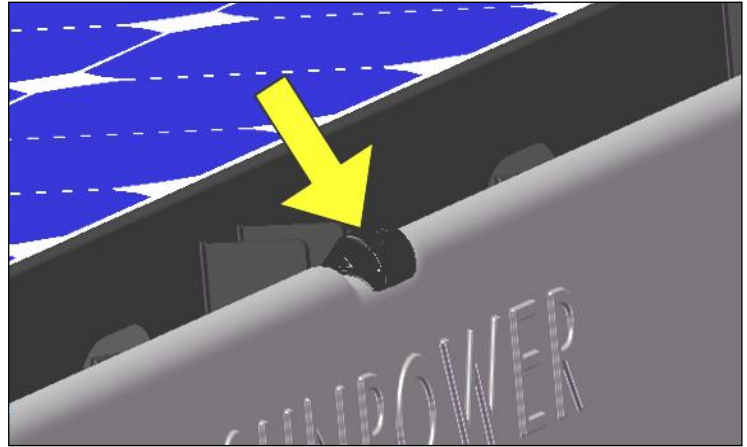

Fig. 69
5. Pull the retainer toward you (northward) to ensure that it fully captures the upper edge of the deflector (Fig. 69).